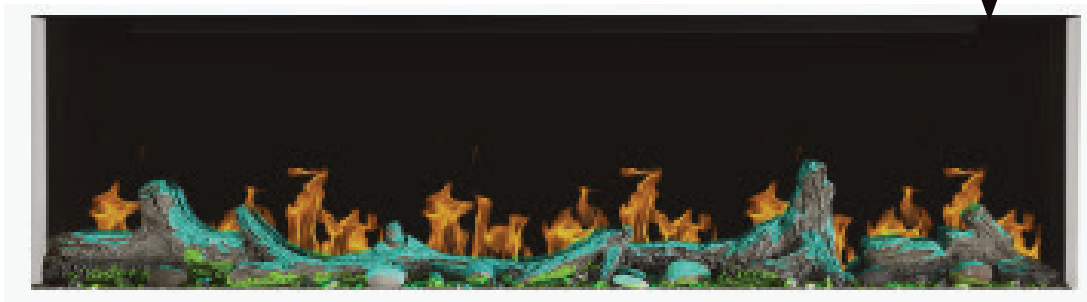

Fig. 16
1. Ensure the appliance is plugged in and turned on (**Fig. 16**).